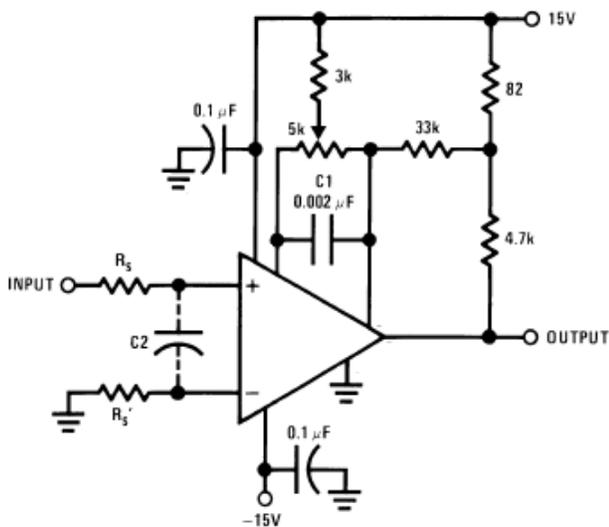
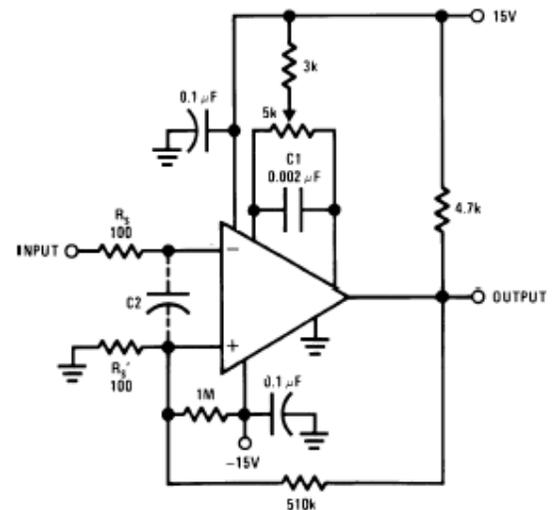
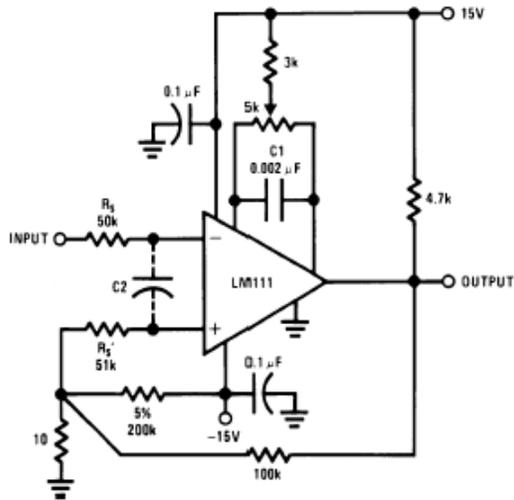

FIGURE 1. Improved Positive Feedback
FIGURE 2. Conventional Positive Feedback
FIGURE 3. Positive Feedback with High Source Resistance
When a high-speed comparator such as the QP111 is used with fast input signals and low source impedances, the output response will normally be fast and stable, assuming that the power supplies have been bypassed (with 0.1  $\mu$ F disc capacitors), and that the output signal is routed well away from the inputs and also away from Balance and Balance/Strobe pins. However, when the input signal is a voltage ramp or a slow sine wave, or if the signal source impedance is high (1 k $\Omega$  to 100 k $\Omega$ ), the comparator may burst into oscillation near the crossing-point. This is due to the high gain and wide bandwidth of comparators like the QP111. To avoid oscillation or instability in such a usage, several precautions are recommended, as shown in Figure 1 below.
1. The trim pins (Balance and Balance/Strobe) act as unwanted auxiliary inputs. If these pins are not connected to a trim-pot, they should be shorted together. If they are connected to a trim-pot, a 0.01  $\mu$ F capacitor C1 between Balance and Balance/Strobe will minimize the susceptibility to AC coupling. A smaller capacitor is used if Balance is used for positive feedback as in Figure 1.
3. When the signal source is applied through a resistive network,  $R_S$ , it is usually advantageous to choose an  $R_S'$  of substantially the same value, both for DC and for dynamic (AC) considerations. Carbon, tin-oxide, and metal-film resistors have all been used successfully in comparator input circuitry. Inductive wire wound resistors are not suitable.
6. It is standard procedure to use Hysteresis (positive feedback) around a comparator, to prevent oscillation, and to avoid excessive noise on the output because the comparator is a good amplifier for its own noise. In the circuit of Figure 2, the feedback from the output to the positive input will cause about 3 mV of Hysteresis. However, if  $R_S$  is larger than  $100\Omega$ , such as  $50\text{ k}\Omega$ , it would not be reasonable to simply increase the value of the positive feedback resistor above  $510\text{ k}\Omega$ . The circuit of Figure 3 could be used, but it is rather awkward. See the notes in paragraph 7 below.
7. When both inputs of the QP111 are connected to active signals, or if a high-impedance signal is driving the positive input of the QP111 so that positive feedback would be disruptive, the circuit of Figure 1 is ideal. The positive feedback is to Balance pin (one of the offset adjustment pins). It is sufficient to cause 1 to 2 mV Hysteresis and sharp transitions with input triangle waves from a few Hz to hundreds of kHz. The positive-feedback signal across the  $82\text{W}$  resistor swings  $240\text{ mV}$  below the positive supply. This signal is centered around the nominal voltage at the Balance pin, so this feedback does not add to the VOS of the comparator. As much as  $8\text{ mV}$  of VOS can be trimmed out, using a  $5\text{ k}\Omega$  pot and  $3\text{ k}\Omega$  resistor as shown.